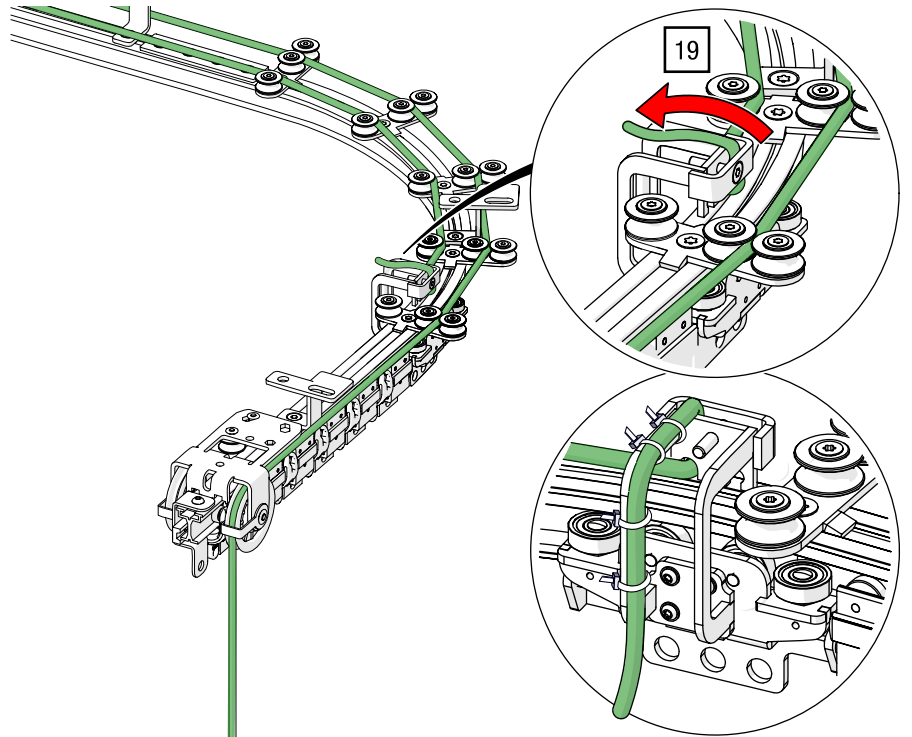

Fig. 100 Top cord operation – Insert cord end into master runner on one side
19. Guide the end of the cord into the clamping unit on the master runner on one side and secure it to the sheet metal at several positions with four tie wraps (see Fig. 100).